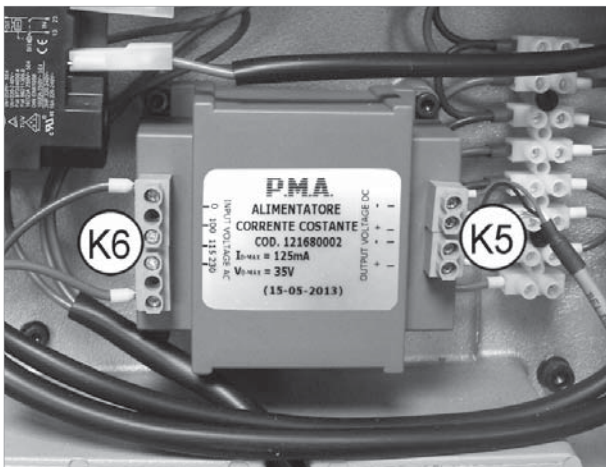

Fig.73
- 7) Use the screws (K6) to fix the 2 power leads into the connectors on the power box (one wire in position 0 and one in the position of the voltage involved 230V). **ATTENTION: observe the position of the wires according to the voltage (Fig.73).**